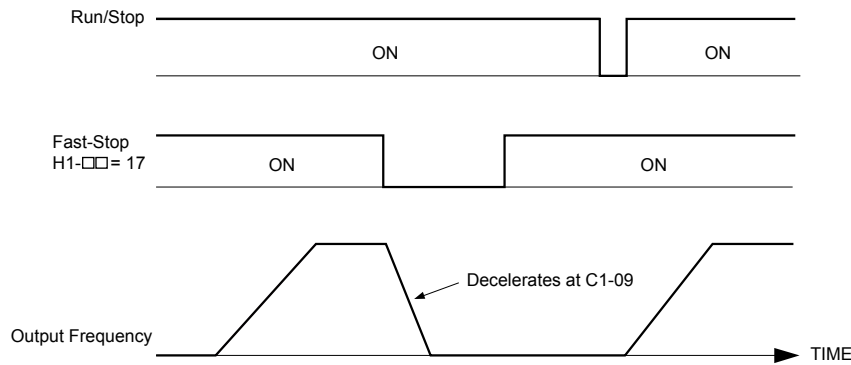

Figure 5.18 Fast-stop Sequence
*Figure 5.18* shows an operation example of Fast-stop.